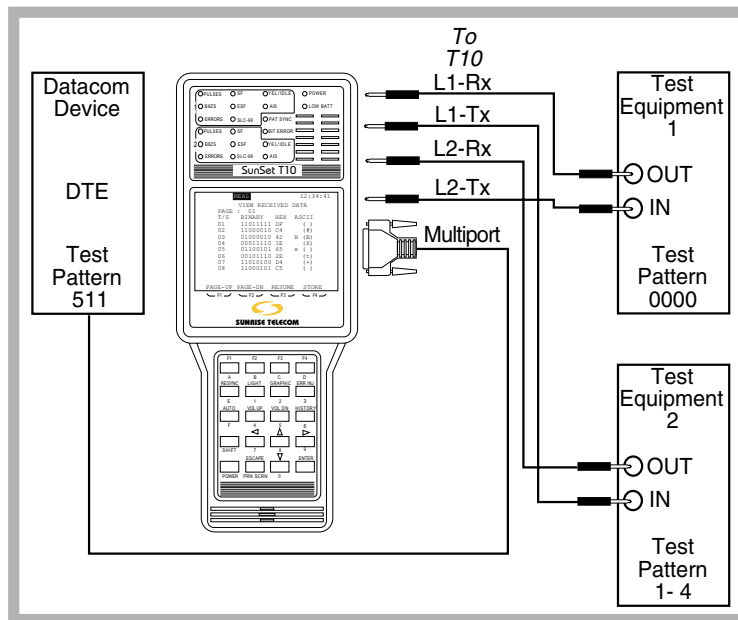

Figure 193 Emulating Add/Drop MUX
9. Connect the SunSet T10 to the datacom device through the multiport. Refer to Figure 193.
TEST CONFIGURATION screen has been selected, the pattern received on the multipoint should be displayed in this screen. For Figure 193, 511 should be seen. Even if only a few Nx64 timeslots have been selected in the TEST CONFIGURATION screen, expect to see the datacom pattern on all timeslots.